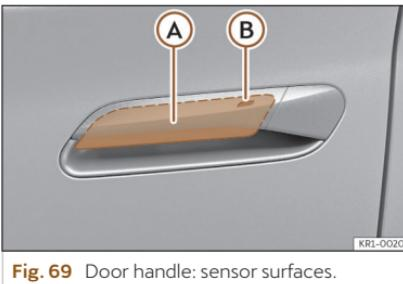

Fig. 69 Door handle: sensor surfaces.
>>> Fig. 69
- Touch the sensor surface Ⓑ >>> Fig. 69 on the outside of the door handle. All turn signals flash once.
- Within 5 seconds, touch the sensor on the outside of the door handle once >>> **Fig. 69**